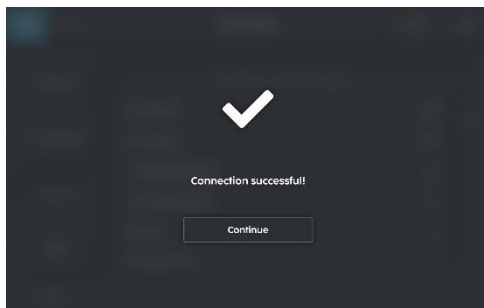

Fig 6
2. If the connection is successful (Fig 6), network change is successful.